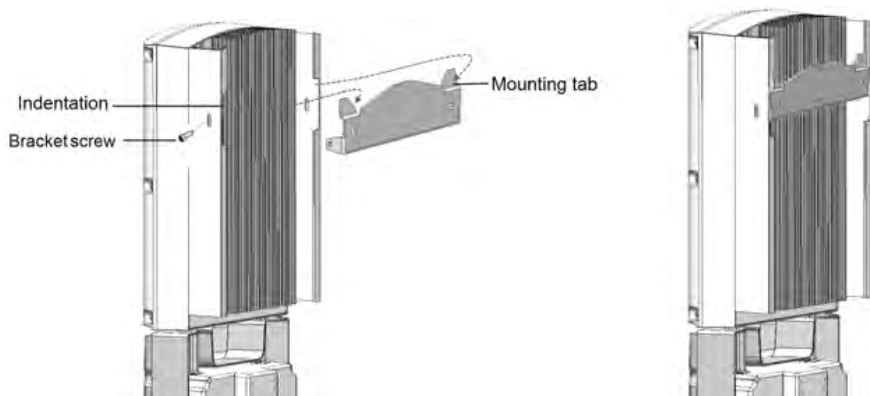

Figure 13: Hanging the inverter on the bracket
- Ensure that the flat edge of the bracket is at the bottom, as in *Figure 13*.
5. Hang the inverter on the bracket (see *Figure 13*): Lift the inverter from the sides, or hold it at the top and bottom of the inverter to lift the unit into place. Do not lift holding the StorEdge Connection Unit as it may be damaged.
8. Insert the two supplied screws through the outer heat sink fin on both sides of the inverter and into the bracket (see *Figure 13*). Tighten the screws with a torque of 4.0 N*m / 2.9 lb.*ft.